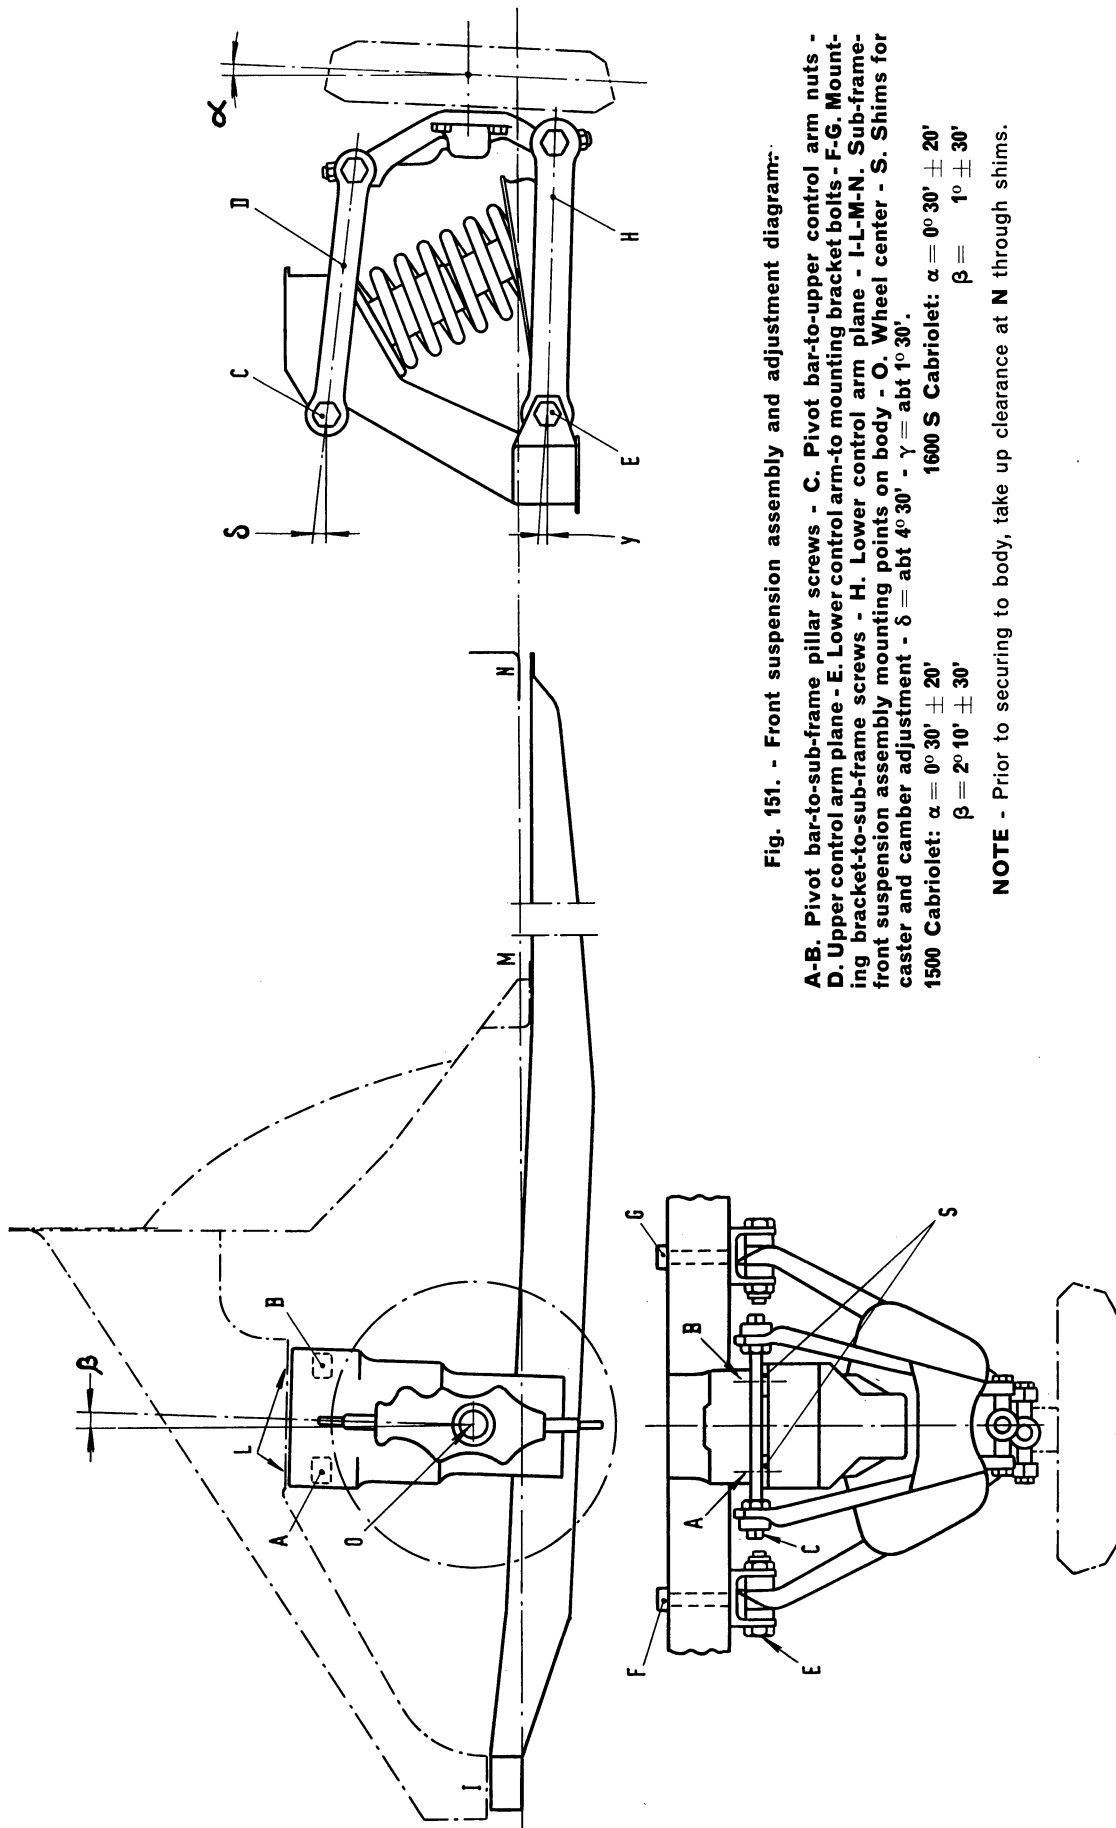

Fig. 151. - Front suspension assembly and adjustment diagram.
- lock nuts C (fig. 151) when the axis of screws A and B and the plane D meet at an angle « δ » of some 4° 30' ;
- place shims « S » on to screws A and B (fig. 151) securing upper control arm pivot bar to front frame; shims should be in the same amount as counted on disassembly;
Back out the nuts securing upper control arm pivot bar to frame pillar and add or remove shims « S » at **A** or **B** (fig. 151). Add shims at **B** to increase caster angle or at **A** to diminish it.
Back out the nuts securing upper control arm pivot bar to frame pillar and remove an equal number of shims from **A** and **B**, if the camber angle must be increased (fig. 151).
Adding or removing the same amount of shims at **A** and **B** (fig. 151) it will be possible to set camber without disturbing caster adjustment as previously made.